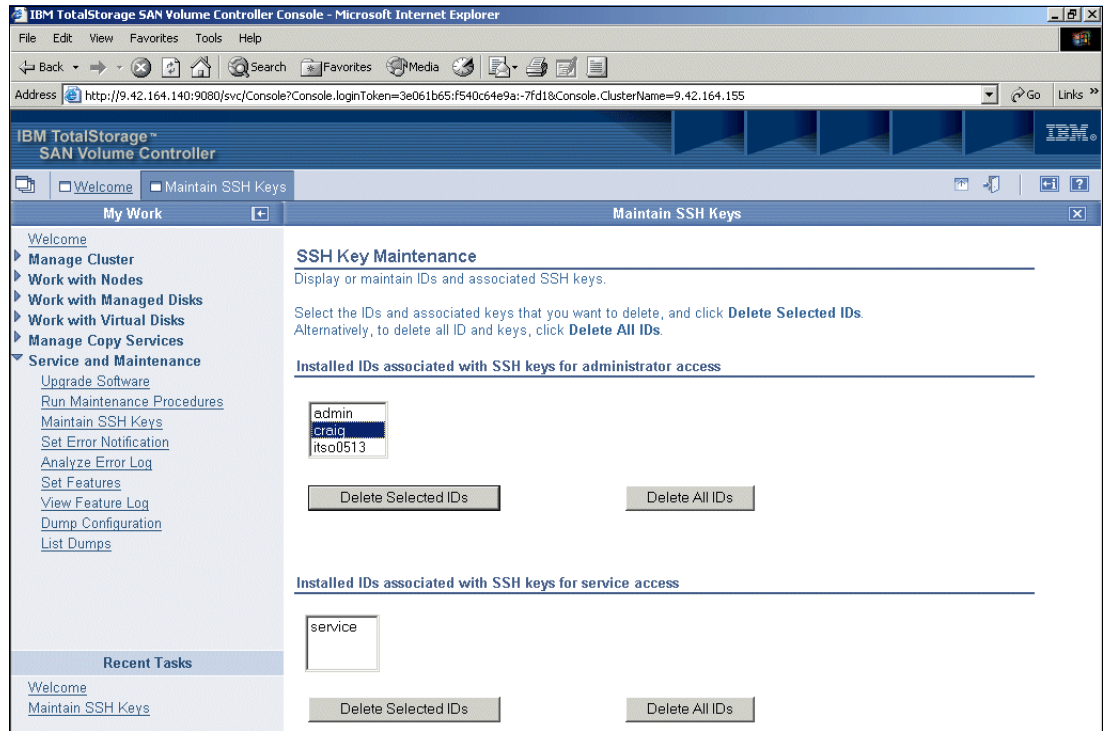

Figure 9-86 List Keys
- When you click List Keys, you see a panel similar to the one in Figure 9-86. It shows which keys already exist on the SVC cluster. You can delete IDs that are no longer required or authorized. You can either select the IDs you want to delete (use CTRL key to select multiple entries) and click the **Delete Selected IDs** button, or delete all IDs by clicking the **Delete All IDs** button.